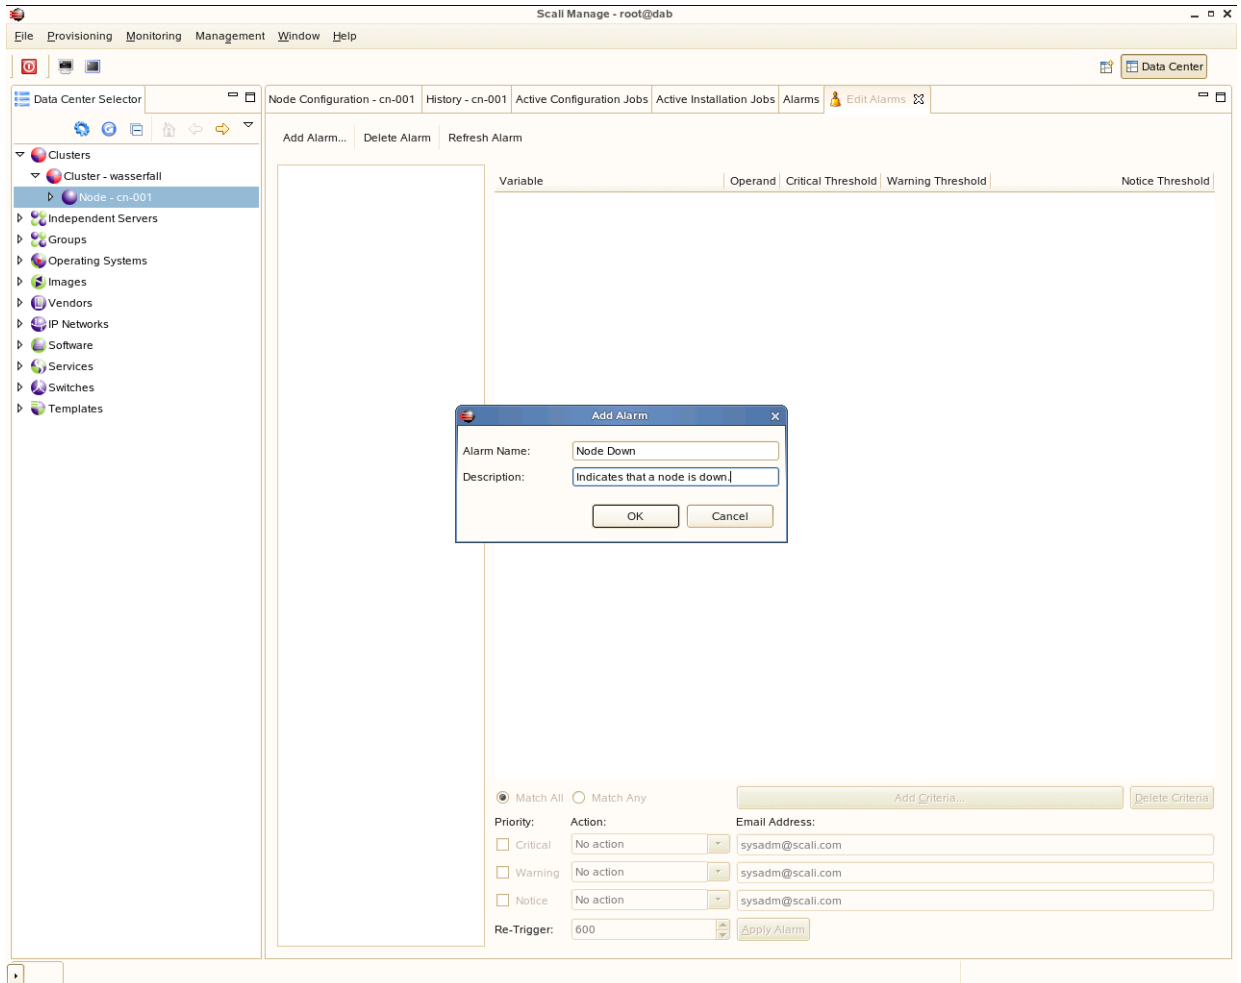

Figure 2-15 Alarm Description Popup Example
5. A popup appears offering input for the alarm name and an optional description, see Figure 2-15.